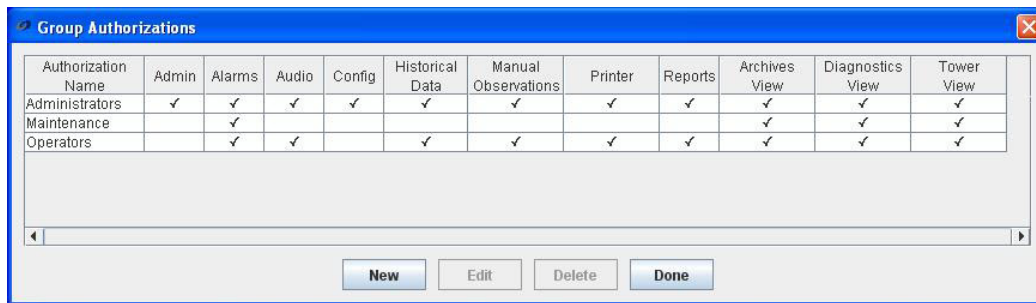

Figure 41. Group Authorizations Screen
- To configure group permissions, log on as an authorized user with Admin rights and select *Edit > Group Authorizations* to call up the screen shown in Figure 41.